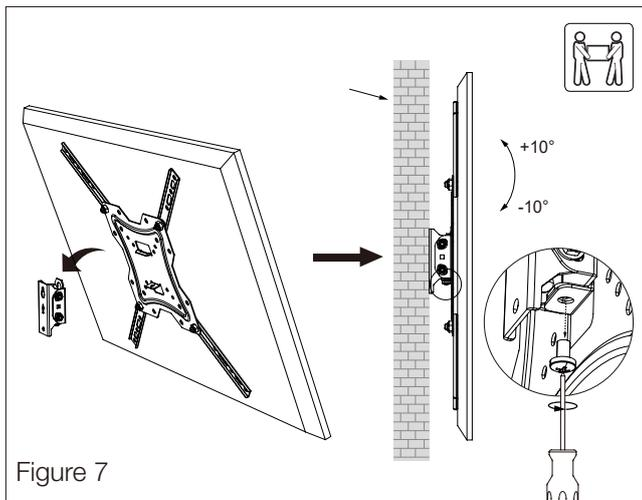

Figure 7
3. Tighten screw at the top of the mounting plate to make sure the TV is secure. (See Figure 7)